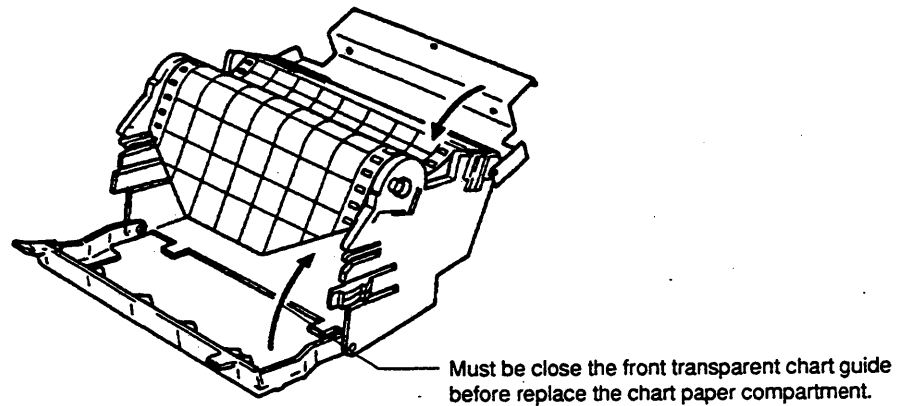

Figure 3-5. Loading the Chart-4
9. Place the front transparent chart guide back into position (see Figure 3-5).